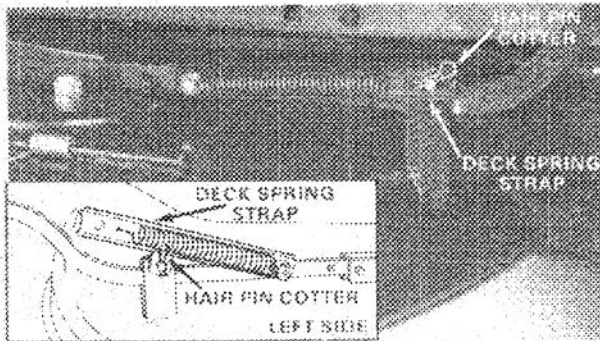

Figure 38
5. Pull the deck spring straps forward while pushing deck rearward and position the clevis pins through the strap holes. Install a flat washer and a hair pin cotter to secure the assembly (Fig. 38).